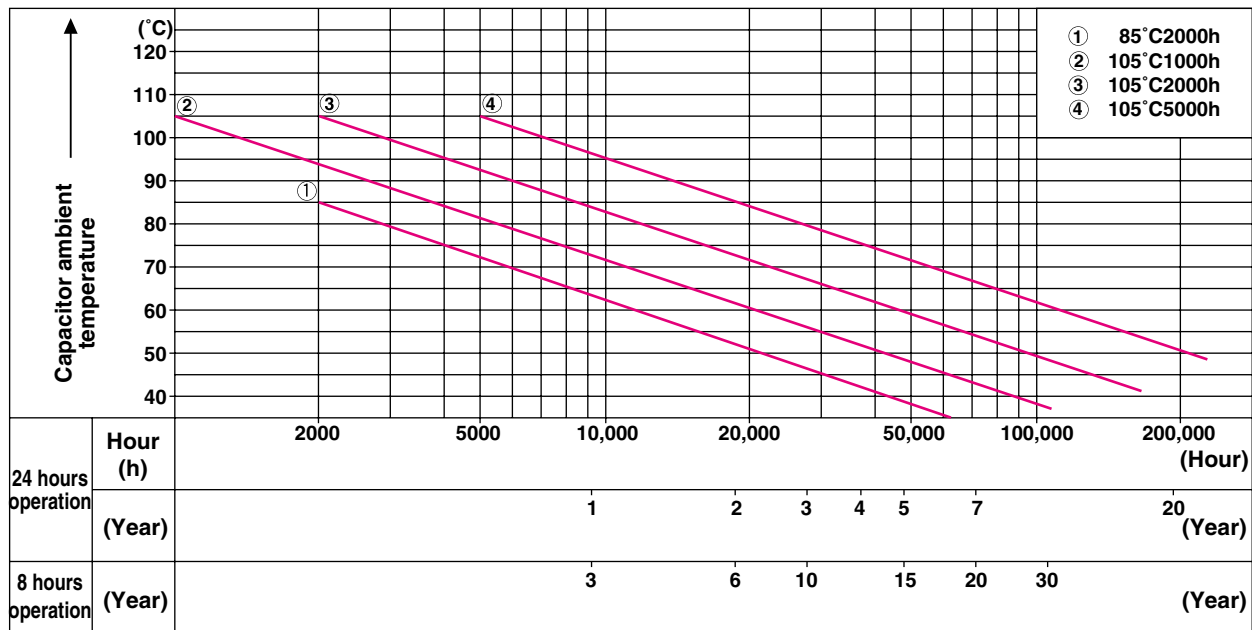

Fig.13 Delating Life Time Quick Reference Guide
(2) How to calculate the life from temperature
The dissipating speed of electrolyte changes with the rate doubling with every 10°C increase in temperature, this "double rule with 10°C" will be applied between 40°C and 100°C. Therefore, expected life at operating temperature can be described in equation (1). Also, for quick calculation, see Fig.13.